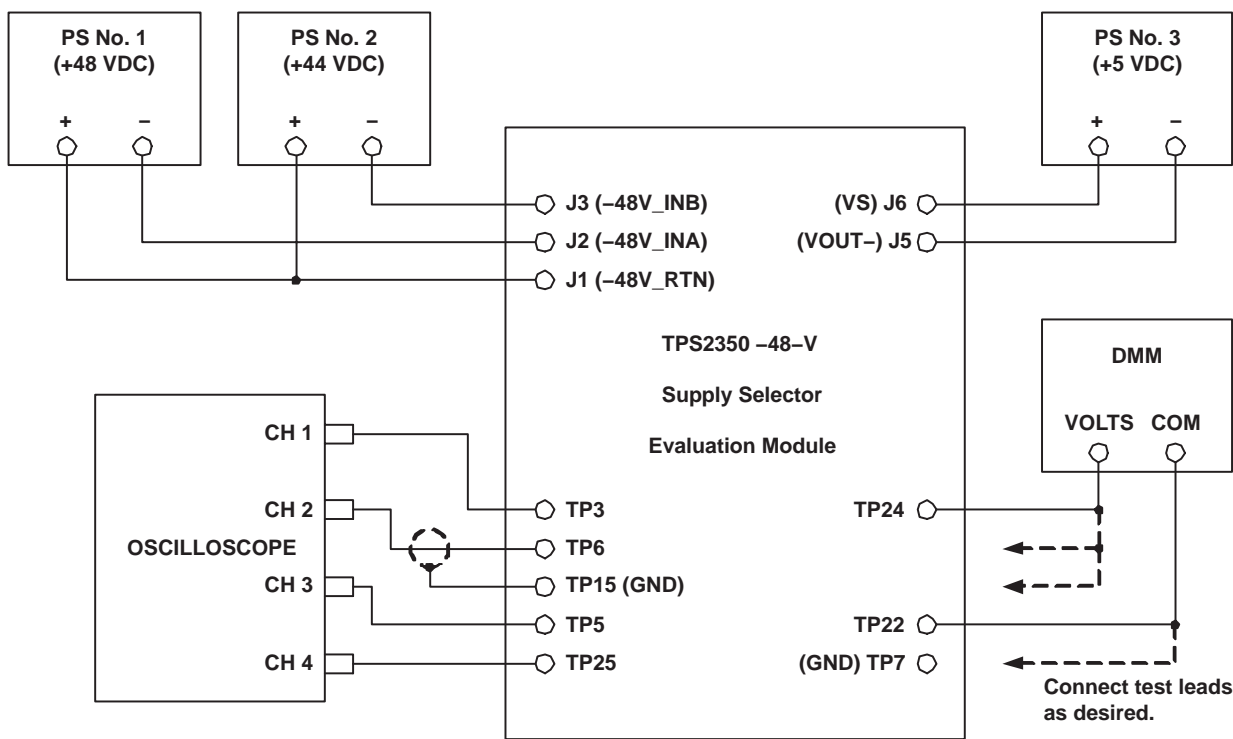

Figure 4. TPS2350 -48-V Supply Selector EVM Equipment Setup
Connect the EVM and test equipment as shown in Figure 4.
Supply connections to the EVM should be made to the banana jacks as shown in Figure 4. The two backplane, 48-V supplies (PS No. 1 and PS No. 2 in Figure 4) connect between J1 and J2 and J1 and J3, respectively. The polarity of the circuit is such that the HI or (+) outputs of the supplies connect to J1, $-48V_RTN$. The LO or (–) jacks connect to J2 ($-48V_INA$) and J3 ($-48V_INB$). PCB header J6 (VS) is used to connect an external pull-up source when using the MOD_EN output of the EVM. This supply is referenced to the VOUT– node at J5.
The EVM can be used to get an illustration of the relationship between current limit, inrush slew rate, load values, and the circuit's fault timing requirements. With DIP switch SW1-1 only closed, the fastest of the preset slew rates is selected, and only the hard-wired timing capacitor C6 is connected to the TPS2350 controller. However, this is sufficient to allow the bulk capacitor C8 to fully charge, from 0 V, across the full range of input supply voltages, down to -80 V. This can be observed by connecting input power as shown in Figure 4, displaying the VOUT- node on an oscilloscope, and enabling the device.